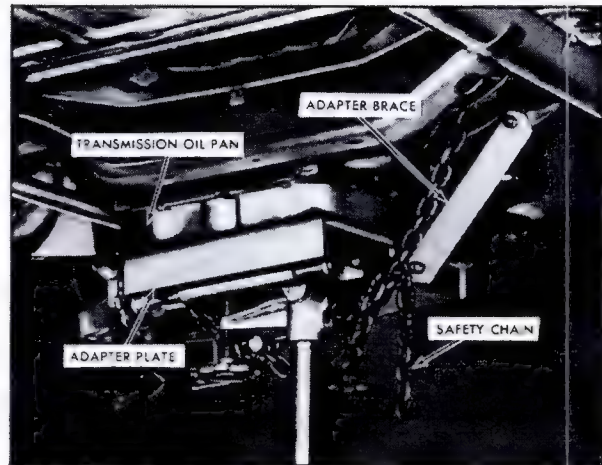

Fig. 7-150 Positioning Transmission Jack to Transmission
21. Position transmission jack, equipped with front end drive transmission adapter plate, to transmission and install bolt securing adapter brace to transmission at starter motor lower mounting hole, Fig. 7-150.